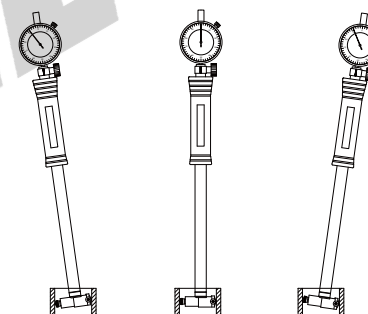

Fig.1
(3)Set zero(as setting ring gage for a example): Insert the bore gage into setting ring and sway the bore gage wiggly(fig.1), to find the "turning point" of the pointer(the maximum reading of the dial indicator). Loosen bezel locking screw and rotate bezel to make "zero line" coincide with "turning point", then tighten bezel locking screw. Sway the bore gage wiggly several times to make sure the "zero line" coincide with the "turning point".